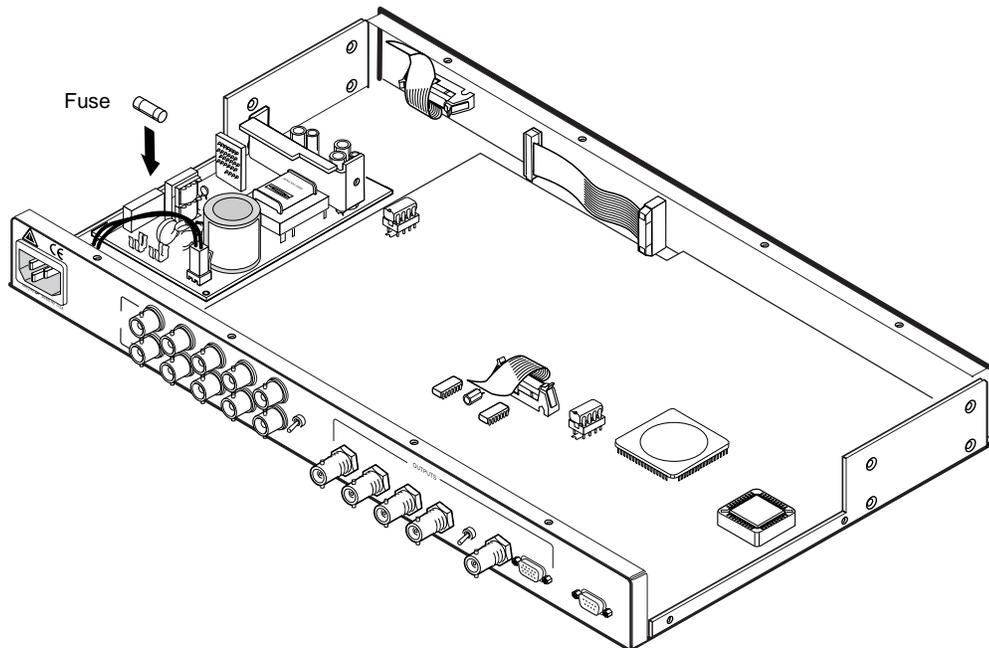

Figure 14 — Replacing the fuse
2. Locate the fuse on the power supply, and remove it from its retaining clips (see figure 14).